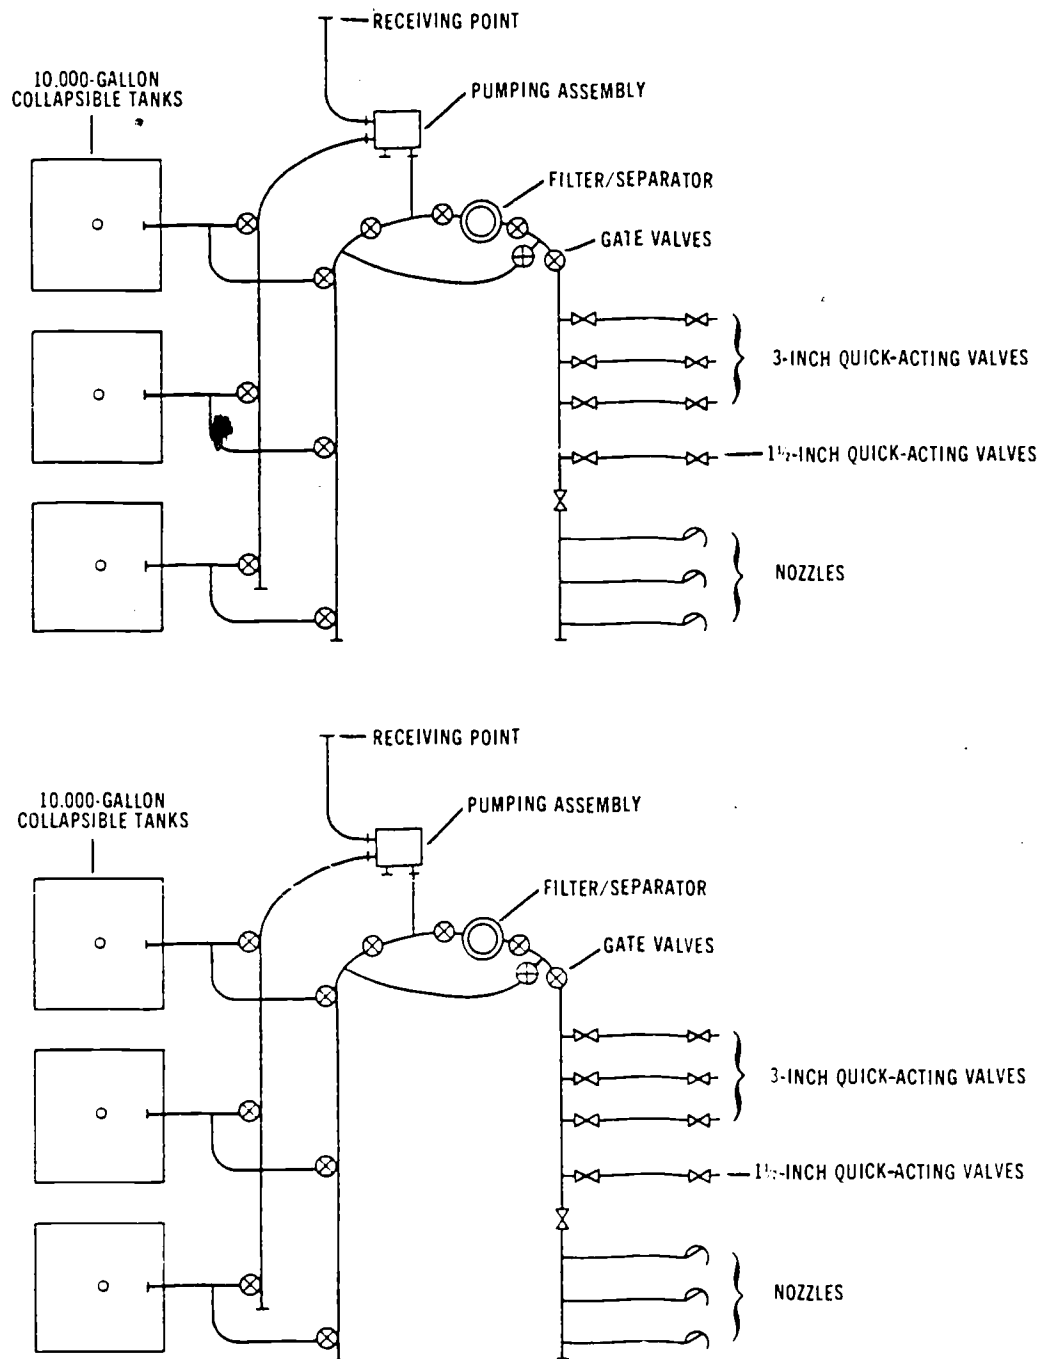

Figure 6-4. Suggested layout for fuel system divided for handling two different fuels or for moving.
The fuel system is used at distribution points to provide storage facilities for transferring bulk fuel from one means of transport to another, and dispensing facilities for bulk reduction or delivery of fuel to using vehicles. The system can receive product from tank trucks, railway cars, pipelines, hoselines, and aircraft. It can also receive fuel from ocean tankers so it is capable of beachhead operations. The system can store 60,000 gallons of bulk petroleum. It can store even more if 10,000-gallon or 50,000-gallon collapsible tanks are added to the system. However, this expansion requires additional hoses, fittings, and valves. The system can be easily moved from one place to another, and it can be divided in half to handle two different types of fuels at two different locations (fig 6-4). The system can also be changed to a 10-point hot-refueling system for rotary aircraft. ②